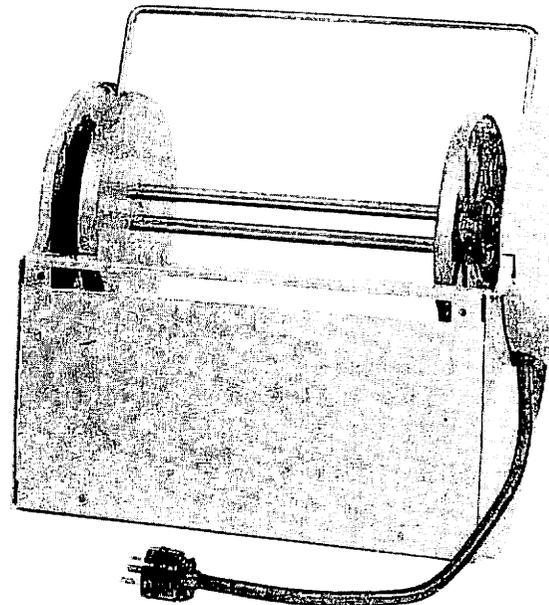

Figure 1 - LPW300 (Bell 1A) Paper Winder
2.01 The paper winder (Figure 1) consists, basically, of a mounting bracket, motor, paper spindle assembly, mercury switch with associated paper-slack bail, and ON-OFF switch.